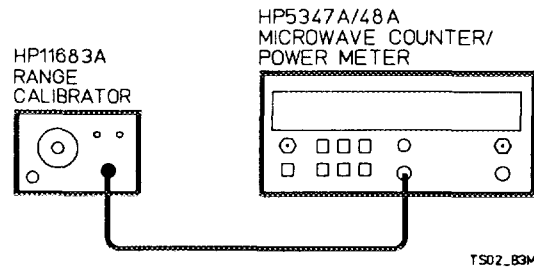

Figure 4-11. Power Meter Accuracy Test Setup
1. Connect the equipment as shown in *Figure 4-11*.